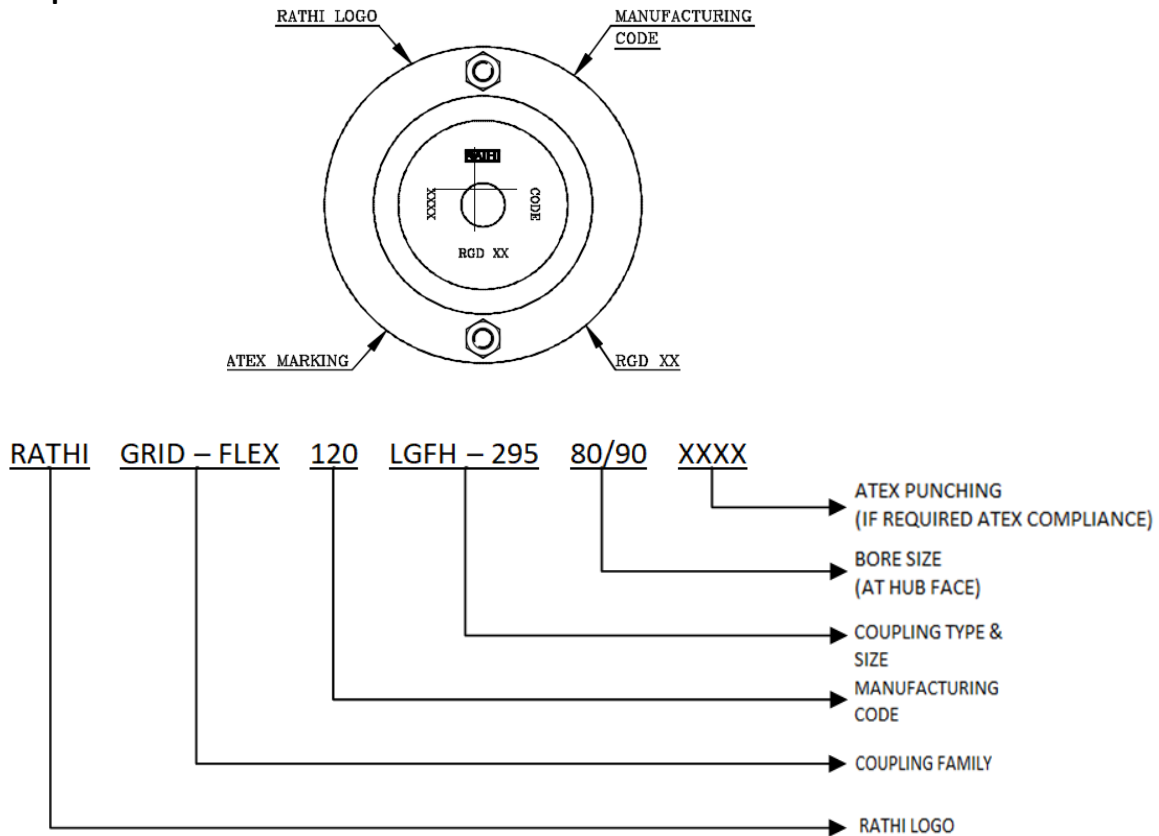

Fig.7. Marking example
- The ATEX marking for REM coupling will be given on outer surface or front side (Fig. 7).